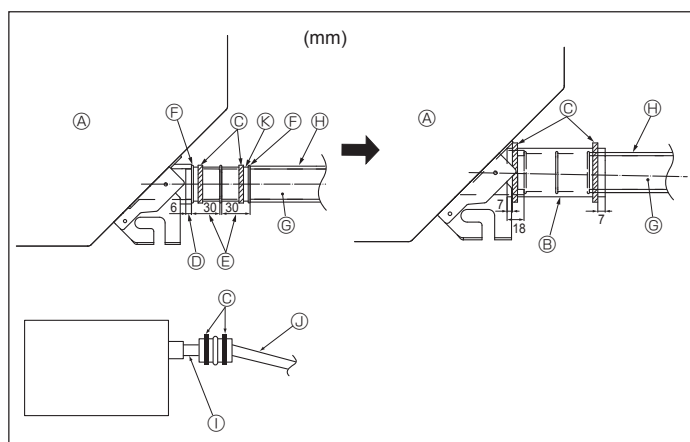

Fig. 4-5
- (A) Insulation (9 mm or more)
- (B) Downward slope (1/100 or more)
- (C) Support metal
- (D) O.D. $\phi 32$ PVC TUBE
- (E) Make it as large as possible (about 10 cm)
- (F) Main unit
- (G) Make the piping size large for grouped piping.
- (H) Downward slope (1/100 or more)
- (I) O.D. $\phi 38$ PVC TUBE for grouped piping (9 mm or more insulation)
- (J) Up to 85 cm
1. Connect the drain socket (supplied with the unit) to the drain port. (Fig. 4-5)